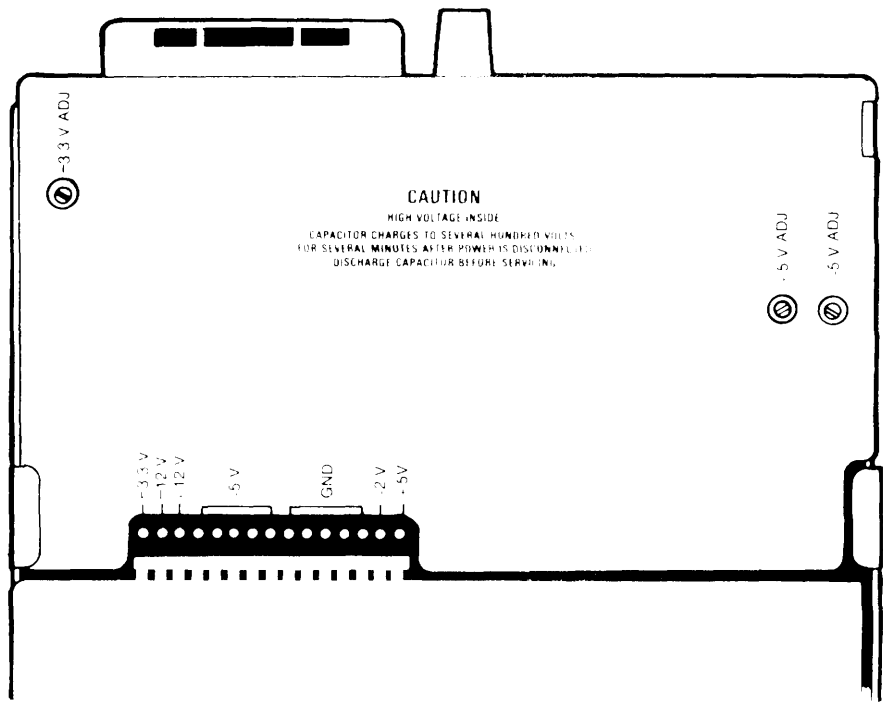

Figure 5-46. 338 Power supply adjustments.
- 1. Refer to Figure 5-46. Remove the 338 wraparound cover.